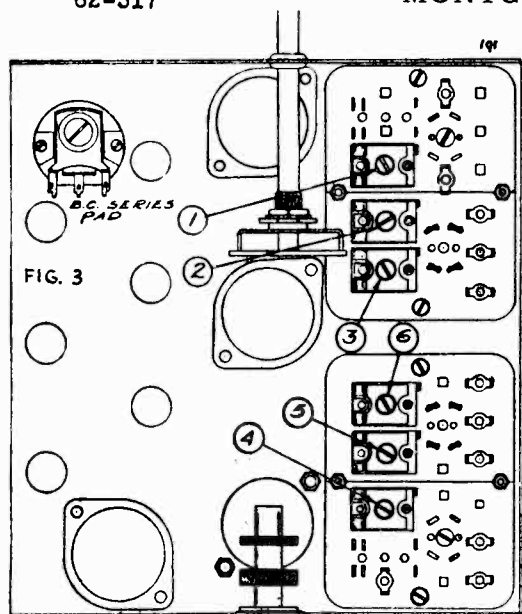

FIG. 3
- Set external oscillator to 1720 K.C. and adjust broadcast oscillator trimmer to resonance (Adjustment number 1; see bottom view of coil assembly, Fig. 3)
- Re-set external oscillator to 600 K.C., and adjust broadcast series pad to resonance by rotating condenser to approximately 600 K.C., rocking it slowly to and fro until by adjusting series pad maximum output is attained. This adjustment is located on the bottom of the chassis directly under the variable gang condenser. (See bottom view of chassis, Fig. 3).